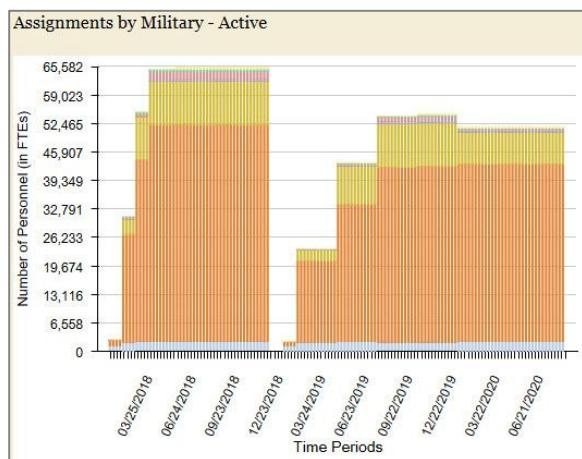
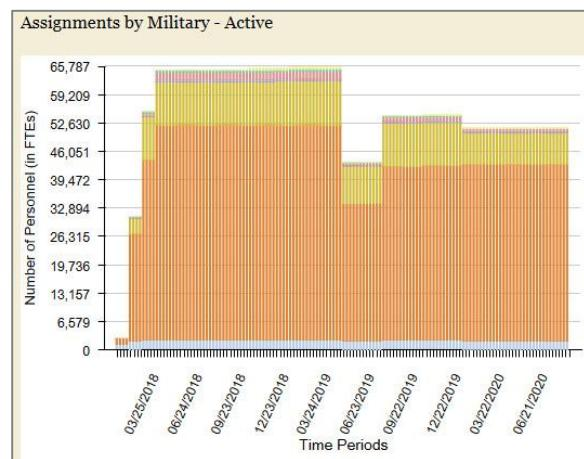

Figure 8. Military-Active assignments for Prussia phase 3 of 8 weeks (baseline analysis)
Figure 9. Military-Active assignments for Prussia phase 3 of 28 weeks (example from section 2.3.1. What if Prussia's phase 3 duration is 28 weeks?).
- In 25% of the cases, the military FTEs decrease off significantly in January, and then rebound in February. This represents the cases where there is minimal to no overlap of the two mission scenarios. Remember that for the shortest phase 3 duration, Prussia will end in December 2018. New Granada begins in January 2019, but requires minimal military FTEs until February (see Figure 8).
- In 75% of the cases, the military FTEs don’t drop until March. This represents the cases with significant mission scenario overlap, in addition to the cases in the 25th and 50th percentile conditions. For the longest phase 3 duration, Prussia will end in April 2019. Once again, Prussia’s increased duration means the military FTEs are needed longer (see Figure 9).
Figure 8 and Figure 9 are presented for comparisons to see how the degree of mission scenario overlap impacts military assignments. The scales of the three graphs are similar, so it's easy to visually compare them. Remember that the Prussia scenario starts in January 2018, and the New Granada scenario starts in January 2019.